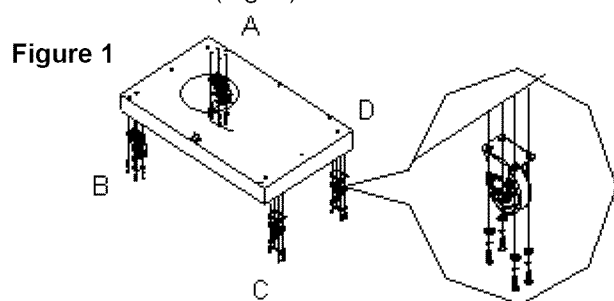

Figure 2
2. Attach left & right side panel to bottom panel using (6) $\frac{5}{32}$ x $\frac{3}{8}$ " Phillips head screws with (6) $\frac{5}{32}$ " lock washers. (Fig.2)